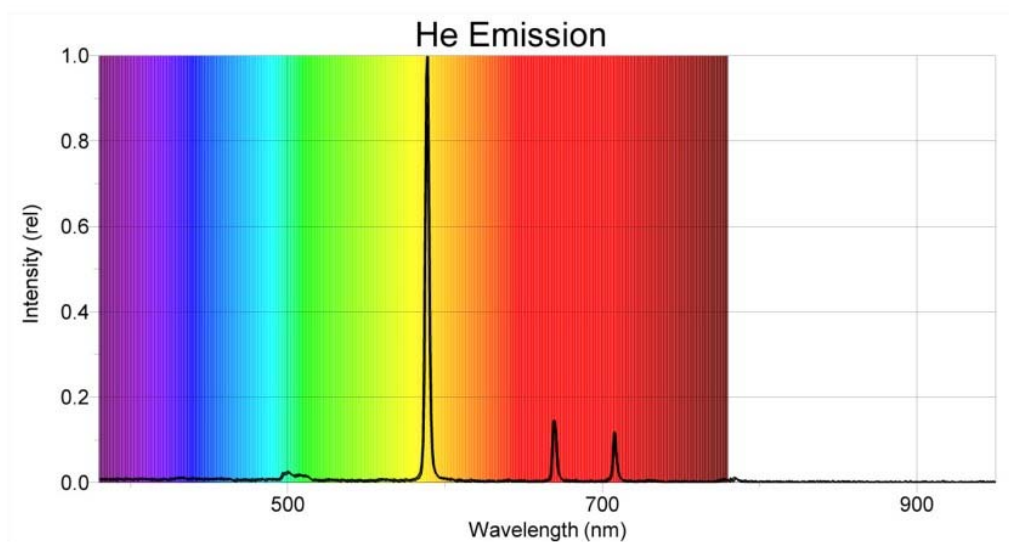

Figure 9.10: An example of an Helium emission spectrum, similar to what you will see on the computer screen.
4. **When you achieve a satisfactory graph, stop data collection.** An example of an emission graph for helium is shown in Fig. 9.10. If the highest peak in the emission spectrum is > 1 , then the sensor is saturated and needs to receive less light. Try moving the optical fiber away from or towards the light source, or point it slightly off-center, until the highest peak is ≤ 1 . If this doesn't help, stop data collection and increase or decrease the **Sample Time** as described in Step 4 of the **Setup** section.